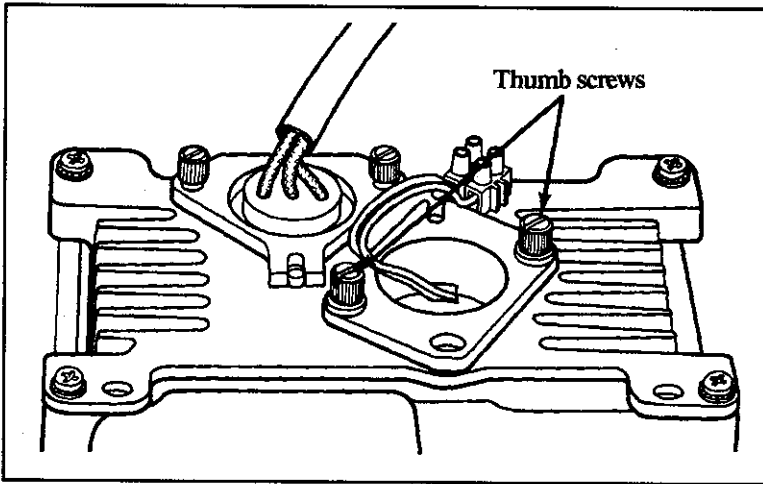

Figure 12-8.
3. Unscrew the two thumb screws which hold the visible source mounting bracket in position. See Figure 12-8.
- Replace the source mounting bracket and tighten the two thumb screws. See Figure 12-8.
12. Tighten the two thumb screws that secure the visible source mounting bracket. See Figure 12-8.